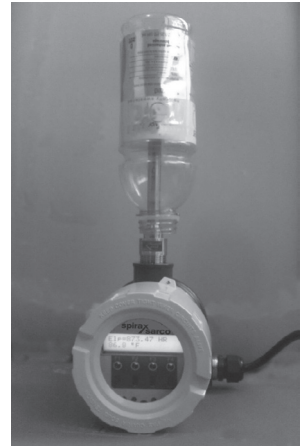

Fig. 34 - Factory-Supplied PVC Sensor Protector vs. Plastic Bottle
1. Use the factory-supplied PVC sensor protector shipped with the meter (see Figure 34 above).